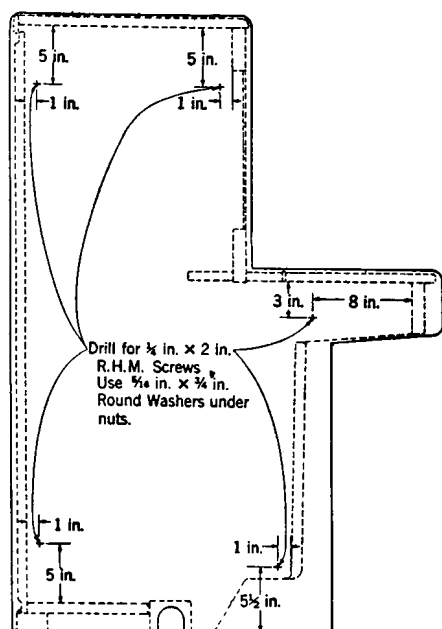

Fig. 4—Drilling Information—No. 551A, 551B, or 552B PBX
- 3.15 Bolt the PBX sections together as shown in Fig. 4.